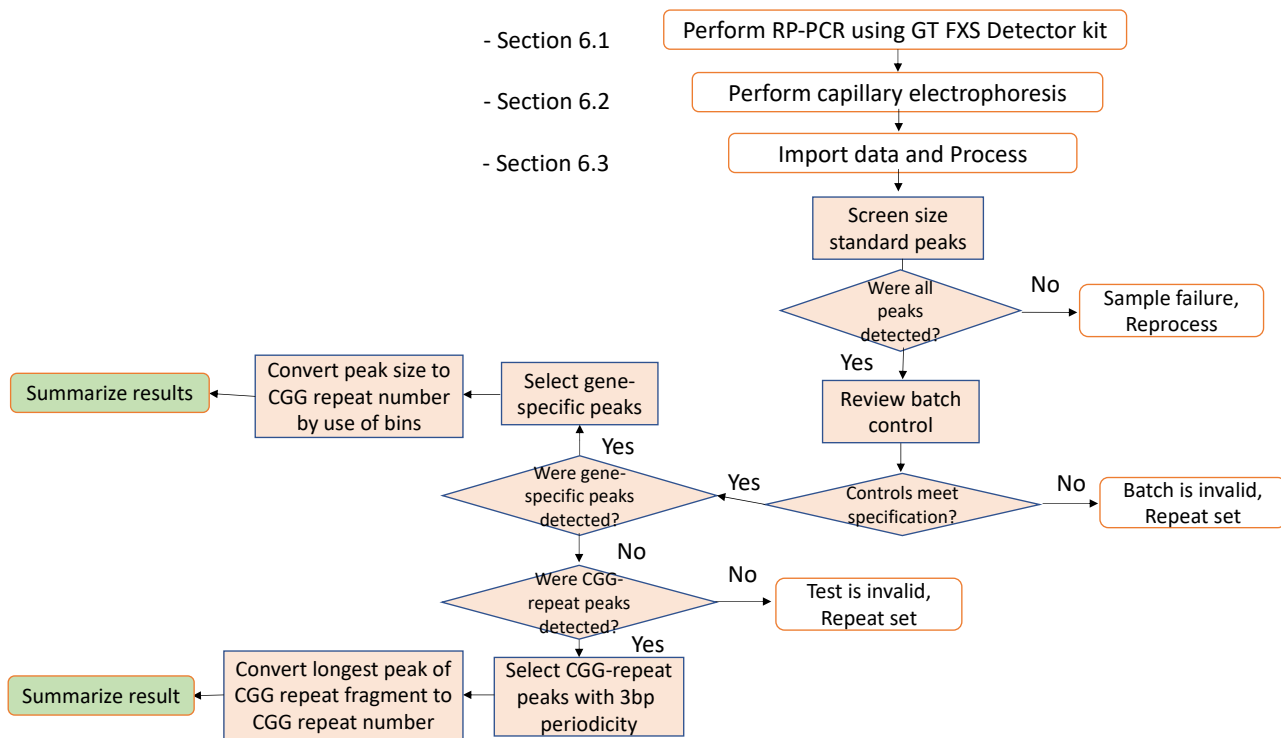

Figure 7. Schematic workflow for analysis of results and interpretation of the data.
- Review positive control (female full mutation): Ensure the positive control meets the following specifications (Figure 7).